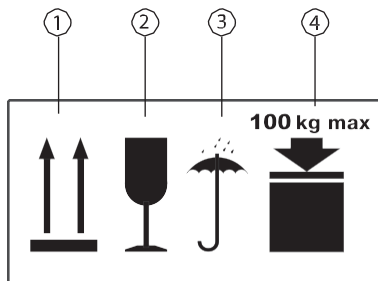

Figure 25
- Handling symbols for transport and storage of the delivery unit (Figure 25)